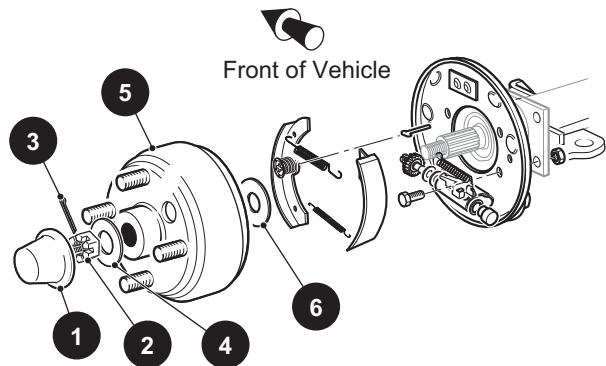

Figure 19 Brake Assembly
Remove the dust cap (1) to gain access to the castellated nut (2) and the cotter pin (3) (Figure 19).